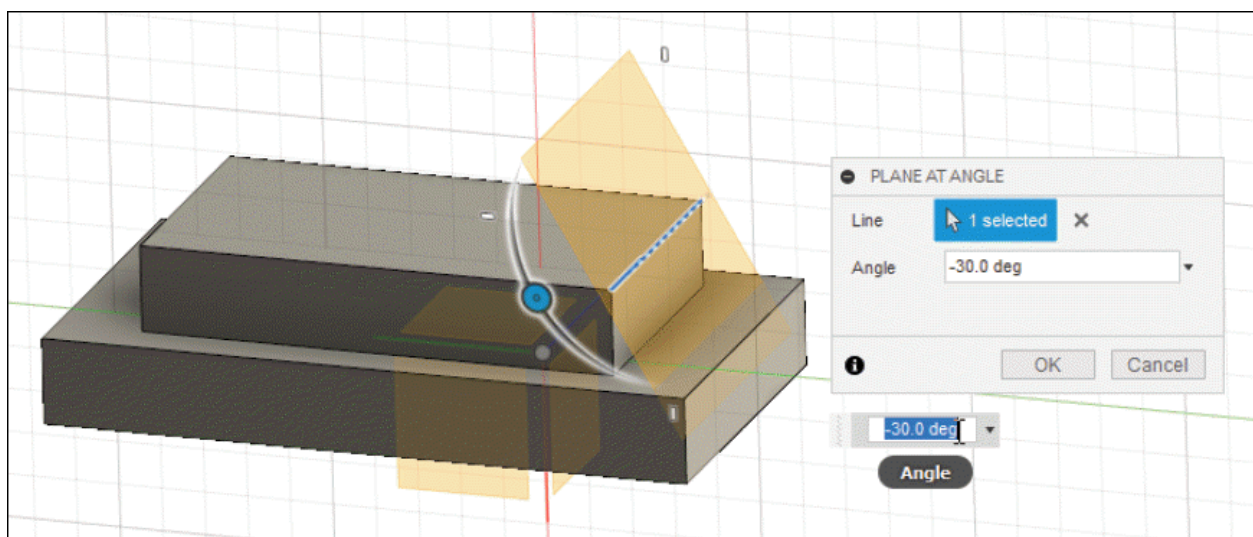

Figure-76. *Preview of plane at angle*
- After specifying the angle for plane, click on the **OK** button from **PLANE AT ANGLE** dialog box. The plane will be created; refer to Figure-76.